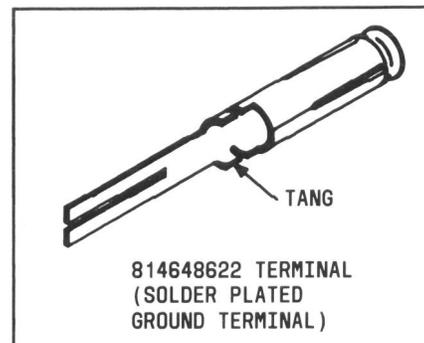

Fig. 7—Ground Terminal
5.06 To remove a ground terminal (Fig. 7), heat the soldered connection, using the soldering copper, and remove as much of the solder from the con-